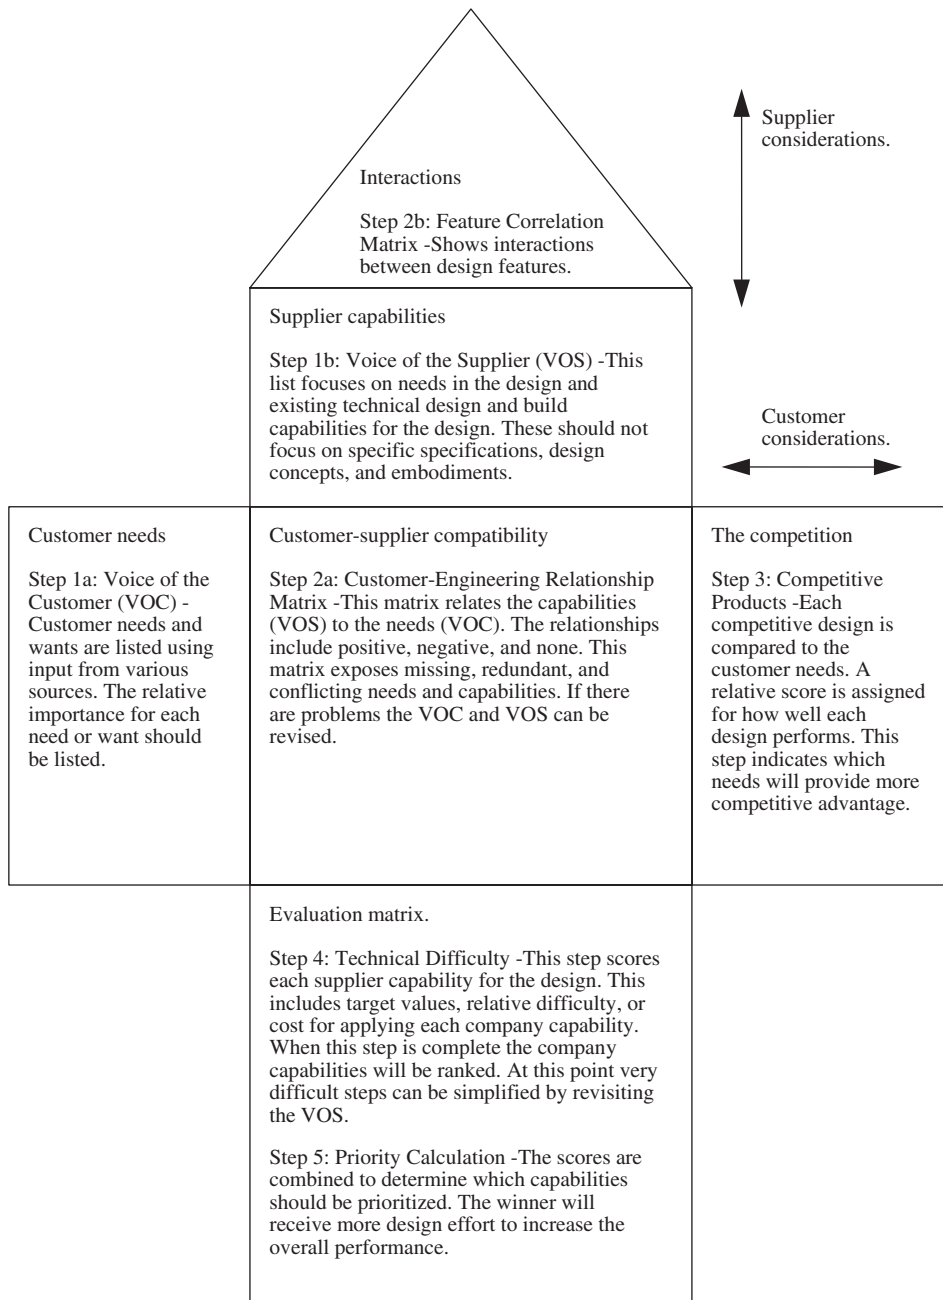

FIGURE 2.18
As a supplier, you have limited design resources and many customer needs. The customers can compare your product to those of competitors. You have things you do well and other things you could improve. The quality function deployment (QFD) method (1) compares your design capabilities with the customer needs, (2) compares the customer needs of your product to other competitors, (3) compares the technical aspects of your product to other products, and (4) outlines the effort required for design improvement (Figure 2.18). The QFD outcome is a ranked list of design features that will produce the greatest benefit for the effort. A QFD, or House of Quality, chart is shown in Figure 2.18. The multistep analysis process begins in Step 1(a) with the voice of the customer, or the customer needs. It is important that these are from the customer perspective, much like consumer specifications. (*Note:* Quickly skimming ahead a few pages will help when picturing the matrix contents.)